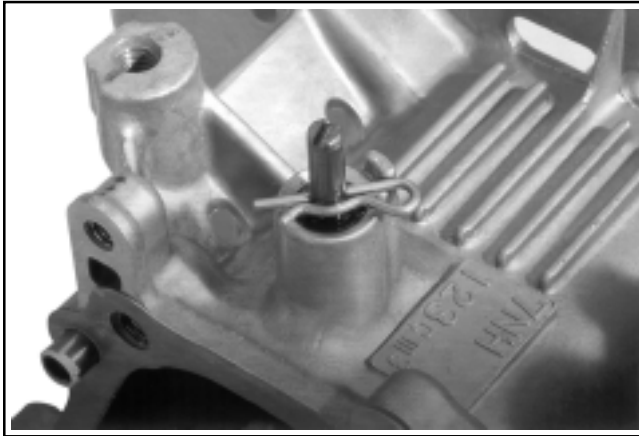

Figure 11-6. CS4, CS6. Installing Hitch Pin.
- Install the second flat washer onto the shaft. Position the shaft so the lower flat section faces to the right (3 o'clock position) and insert the hitch pin so the end of the clip comes in contact with the raised section of the housing boss, limiting the inward movement of the arm. See Figures 11-6 and 11-7.